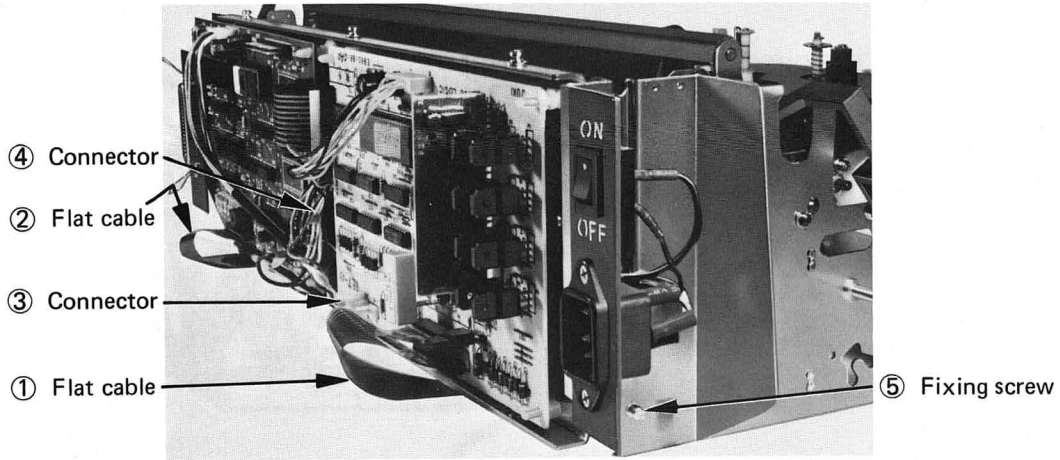

Fig. 5.33
- Step 1. Remove the bottom cover and the circuit board cover, and then disconnect flat cables ① and ②, and connectors ③ and ④. (Fig. 5.33)
- Step 2. Remove two fixing screws ⑤ from either side of the frame. (Fig. 5.33)